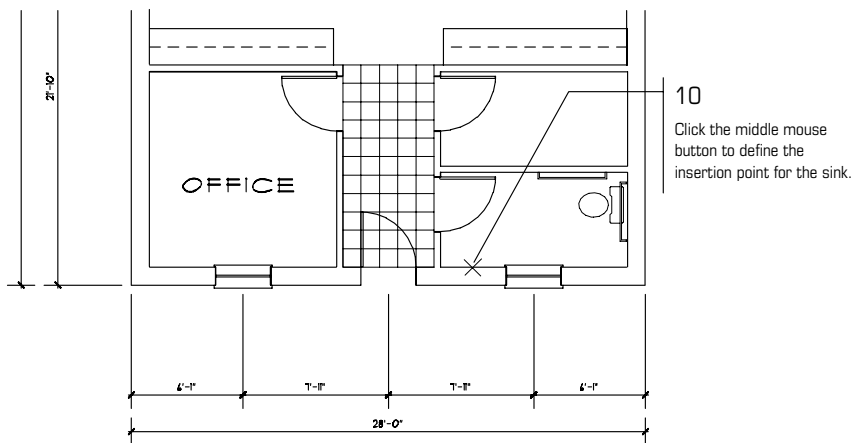

Figure 4.22: Placing the sink in your drawing
10. Position the cursor at the center point, between the window and hallway wall, as shown in Figure 4.22. Click the middle mouse button.